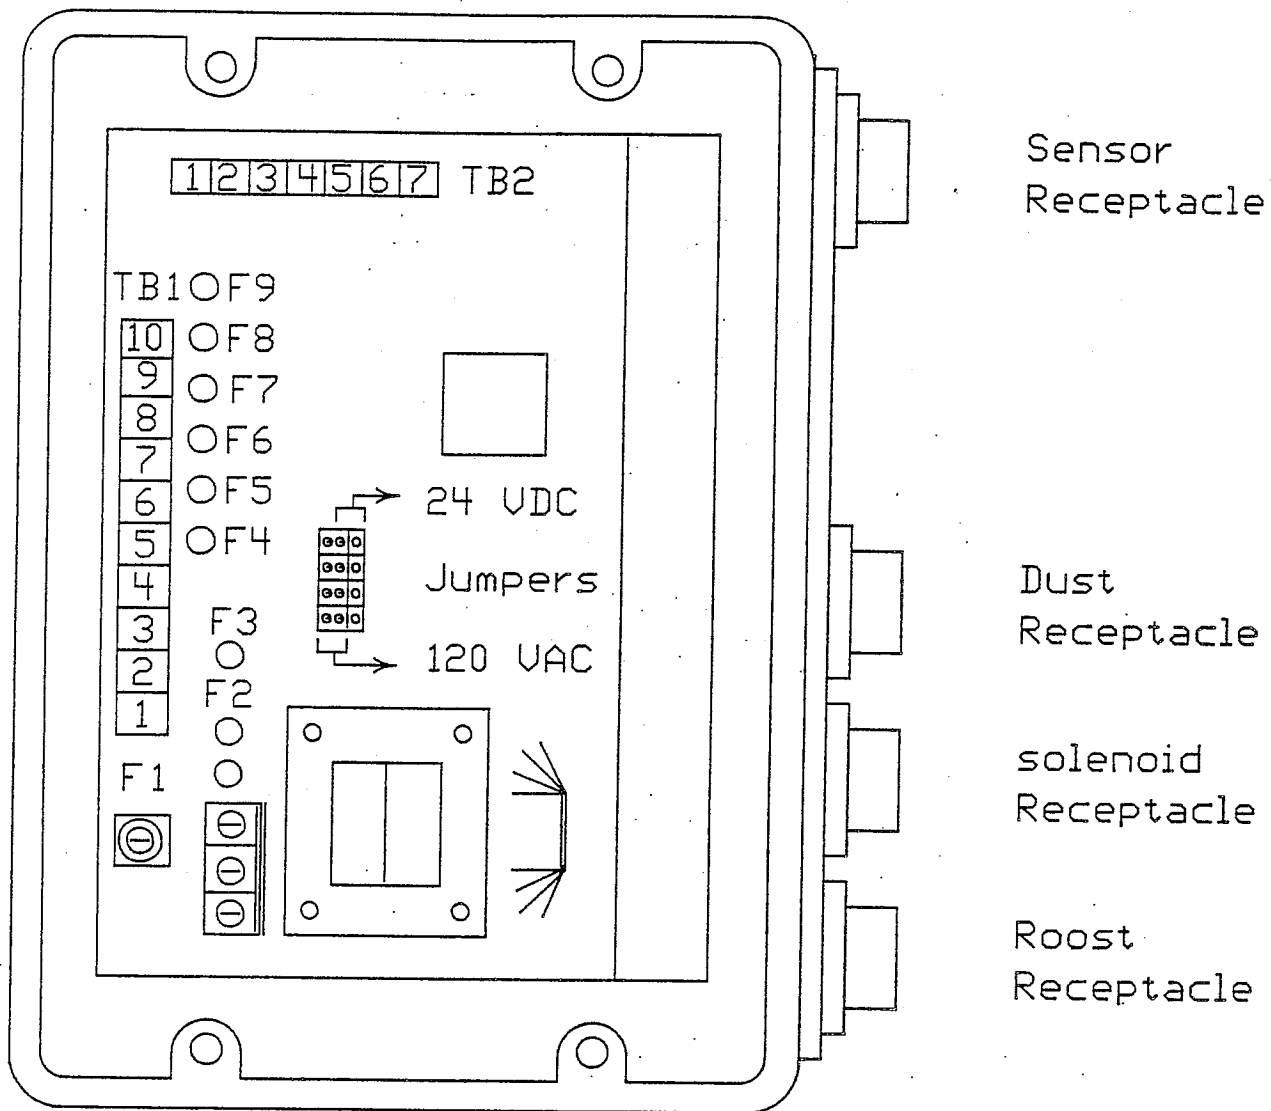

Figure 3
Options Wired to the ZS-20 Base (See Figure 3)
- 1) the position of the jumper plug on the base circuit board (See Figure 3 and Table 1 for a description of the jumper positions)
The fuses for the ZS-20 are located in a vertical row near the left side of the base panel (See Figure 3 and Table 4 for placement). They are placed in sockets to allow easy replacement in case a fuse is blown.